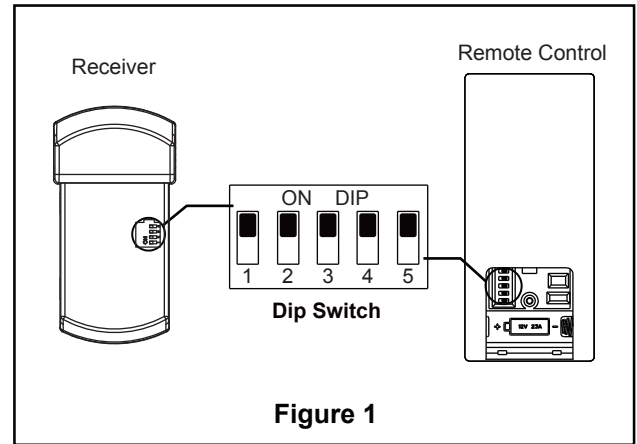

Figure 1
- ☐ 1. To set the code on receiver unit, slide dip switches to the same positions as set on the remote. (Figure 1)